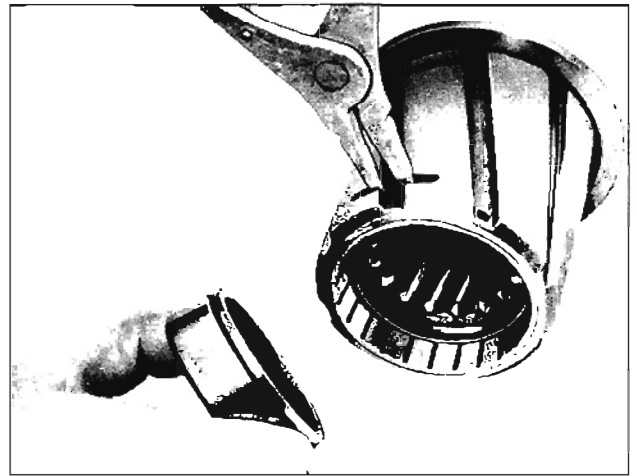

Fig. 7-118 Removing Synchronizer Ring
3. Using Tool J-0932, expand the retainer into the counterbore in the clutch sleeve. This raises the retainer from the groove in the ring so ring may be easily slipped out. (Fig. 7-118)